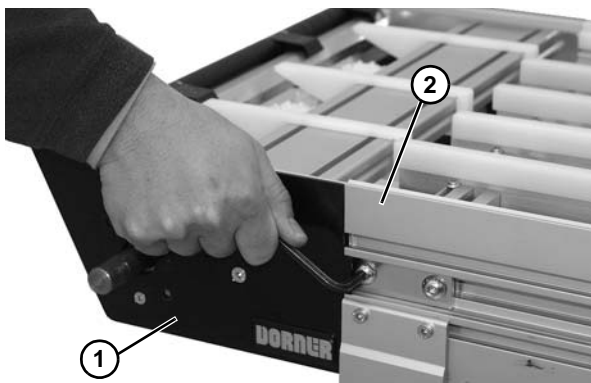

Figure 79
*When reinstalling the nose bar drive spindle tail assembly, the drive tail assembly (**Figure 79, item 1**) should mate flush with the conveyor frame (**Figure 79, item 2**).*